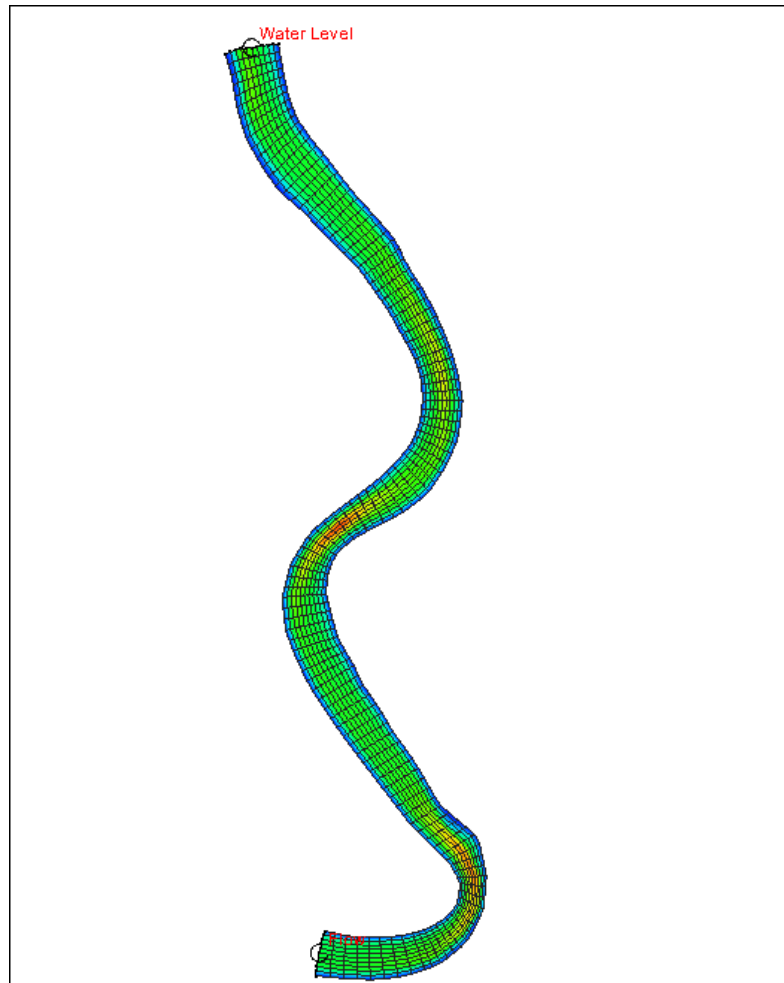

Figure 10 The channel with only mesh data visible
11. Turn off Map Data and Scatter Data in the Project Explorer, leaving only Mesh Data visible. Figure 10 shows what the mesh should look like: